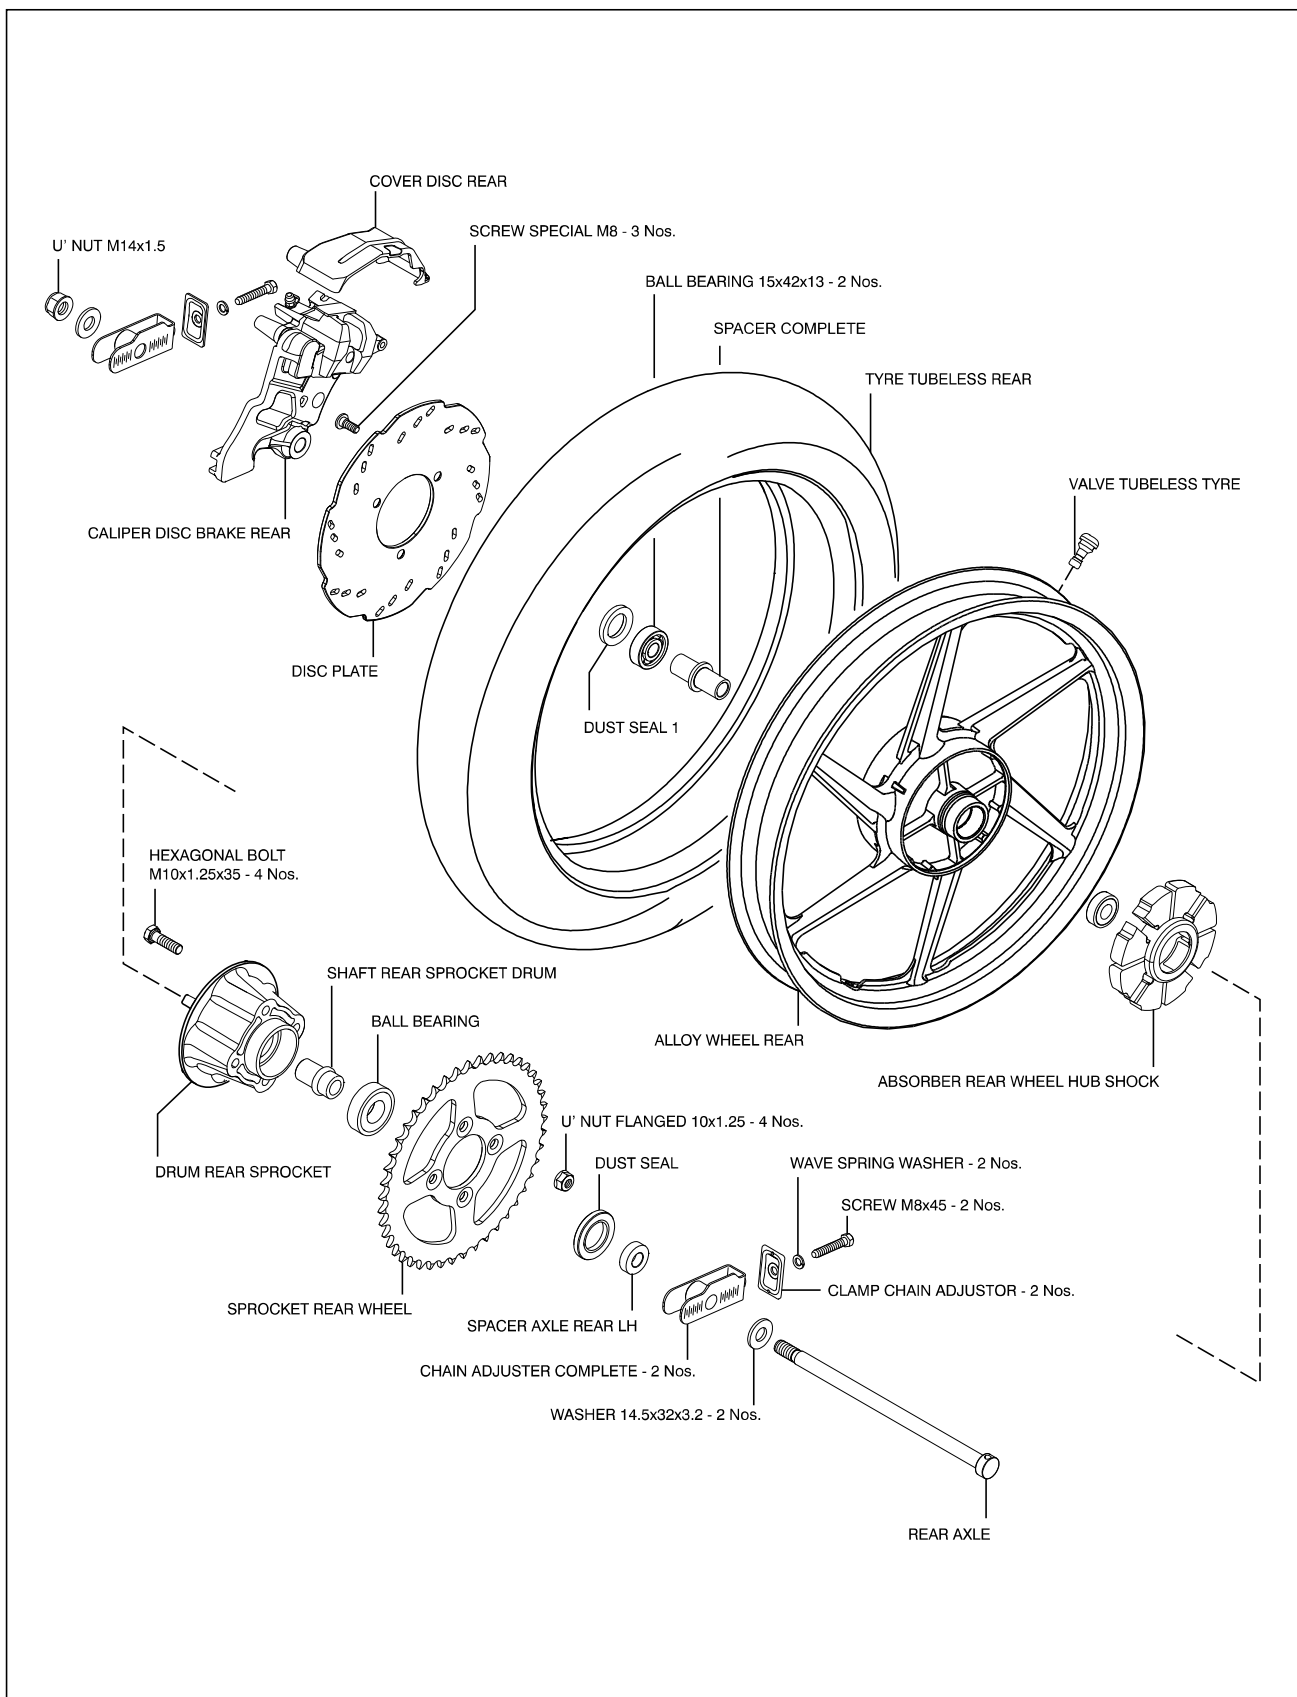

Fig. 6.100
- Reassemble and remount the wheel assembly rear in the reverse order of disassembly. Refer wheel assembly exploded view (Fig. 6.100 & 6.101) for assembly details.